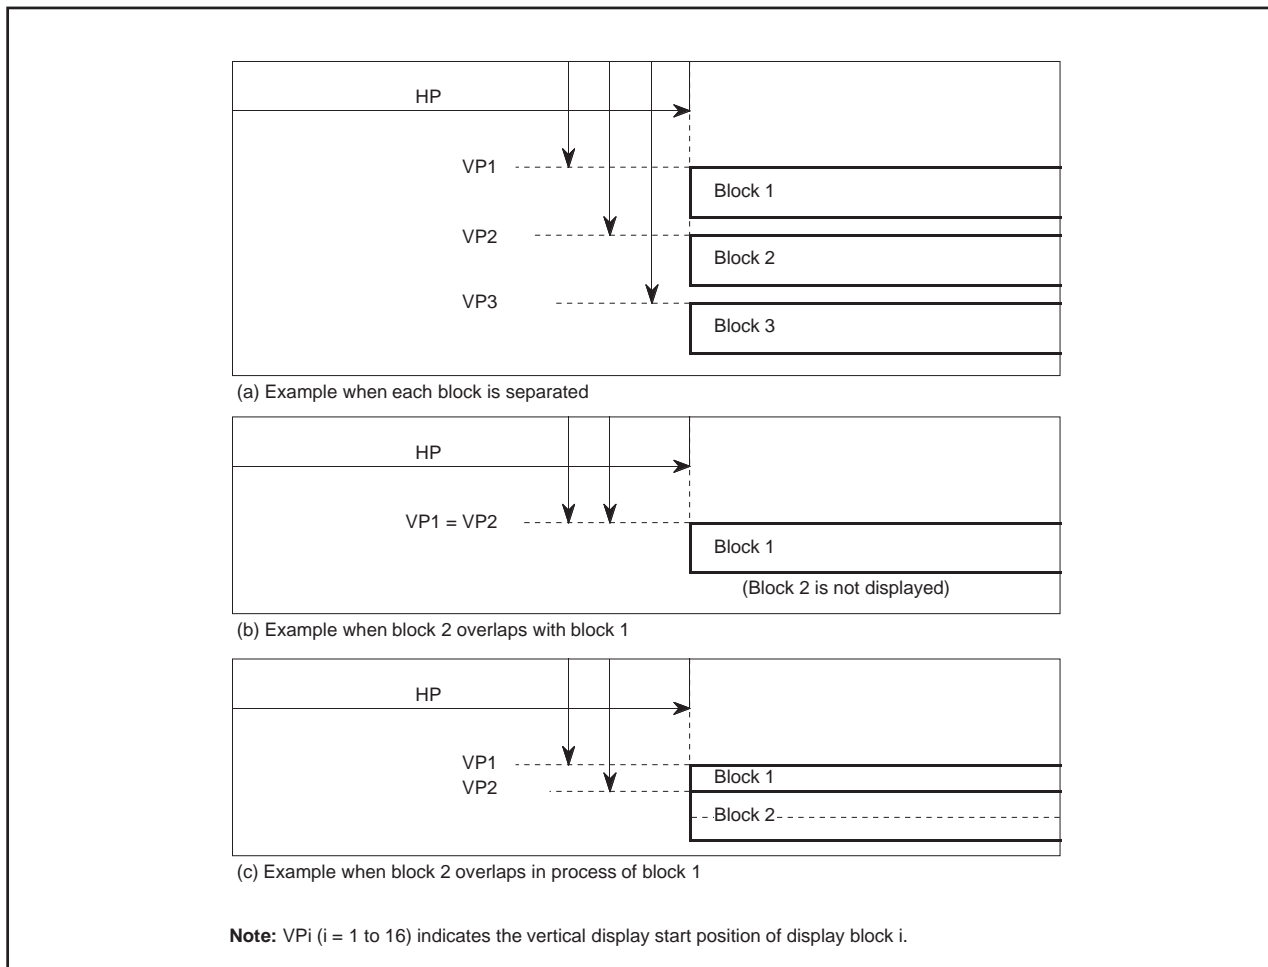

Figure 16.8 Display position
- When the display position is overlapped with another block in the same layer (Figure 16.8 (b)), a low block number (1 to 16) is displayed on the front.
- When another block display position appears while one block is displayed in the same layer (Figure 16.8 (c)), the block with a larger set value as the vertical display start position is displayed. However, do not display block with the dot size of $2Tc \times 2H$ or $3Tc \times 3H$ during display period (*) of another block.